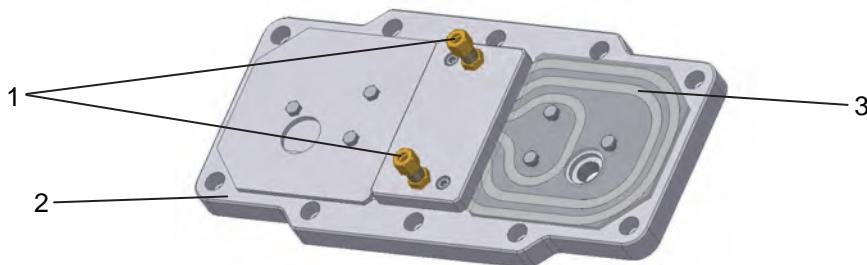

Figure 3-14: Cooling cover
Cutting ring screw threads (see Item 1, Figs. 3-14) are located at the casing cover for the connection of a pipe with an external diameter of 10 mm according to DIN 2353. **Remove the drain plug from the screw neck prior to assembly to avoid any contamination of the cooling system.** The screw necks should be connected with the coolant circuit, which must be provided by the operator. The flow direction of the coolant is irrelevant.
**Make sure not to twist the screw necks during or after assembly** as the cooling coil may be damaged (see Item 3, Fig. 3-14). You must ensure that no external forces act on the cooling coil.